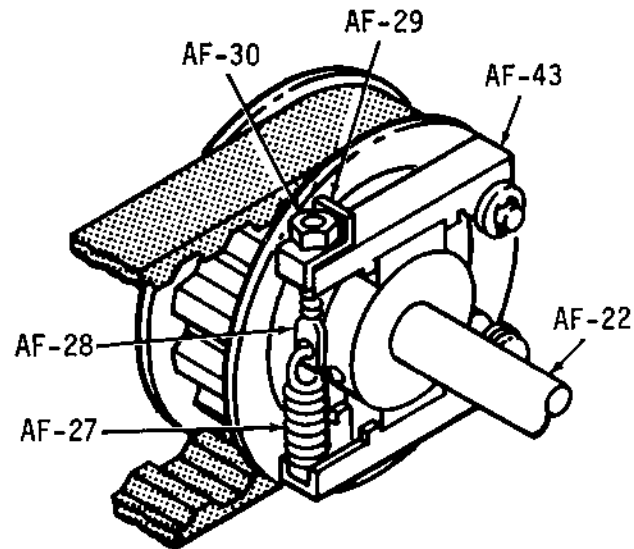

Figure 5-8. TORQUE LIMITING DEVICE (BRAKE)
- (g) To re-assemble idler pulley shaft parts, reverse steps at para. B.1.(a) through B.1.(f)(1) - (6).
- (a) Remove complete idler pulley assembly (AF). Refer to para. 5.2.6.2.A.1. through 6.
- (f) To install complete idler pulley (AF), reverse steps in para. 5.2.6.2.A.1. through 5.2.6.2.A.7.
A. IDLER PULLEY (AF-23)(PART OF TORQUE LIMITER (BRAKE) MECHANISM)(FIG.5-8)